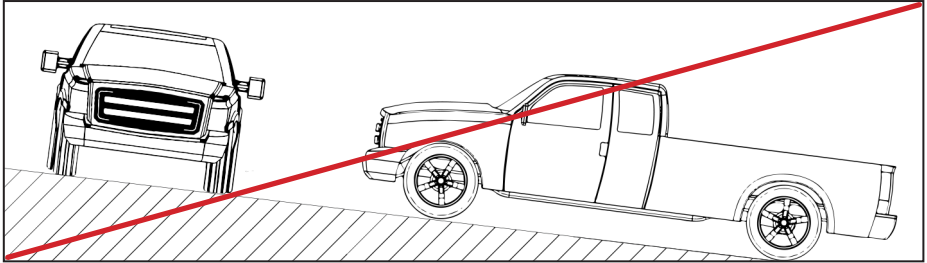

Figure 12 — Do not exceed 20° grade
- Ensure the vehicle is not parked on grades exceeding 20° as this will affect lubrication and air/oil separation (Figure 12).